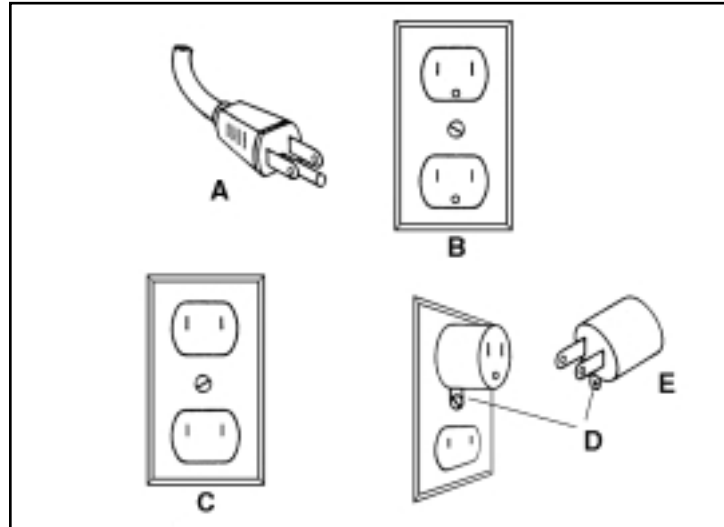

Figure 1: Outlet and Plug Configurations
- When using an adapter refer to *Figure 1*.
Refer to *Figure 1*. Use the charger on a nominal 120 VAC circuit that has a grounding outlet that looks like B. An adaptor can be used, such as one like E to connect the plug to a two-pole outlet like C, until a properly grounded outlet can be installed by a qualified electrician.